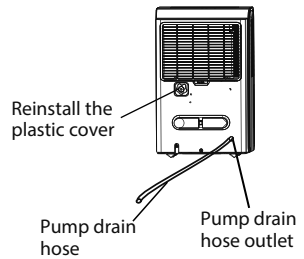

Fig. 11
- Remove the continuous drain hose from the unit and install the plastic cover to the continuous drain hose outlet of the unit by clockwise rotation. (See Fig. 11)
- Insert the pump drain hose into the pump drain hose outlet for at least 15 mm (See Fig. 11), then lead the water hose to the floor drain or a suitable drainage facility.